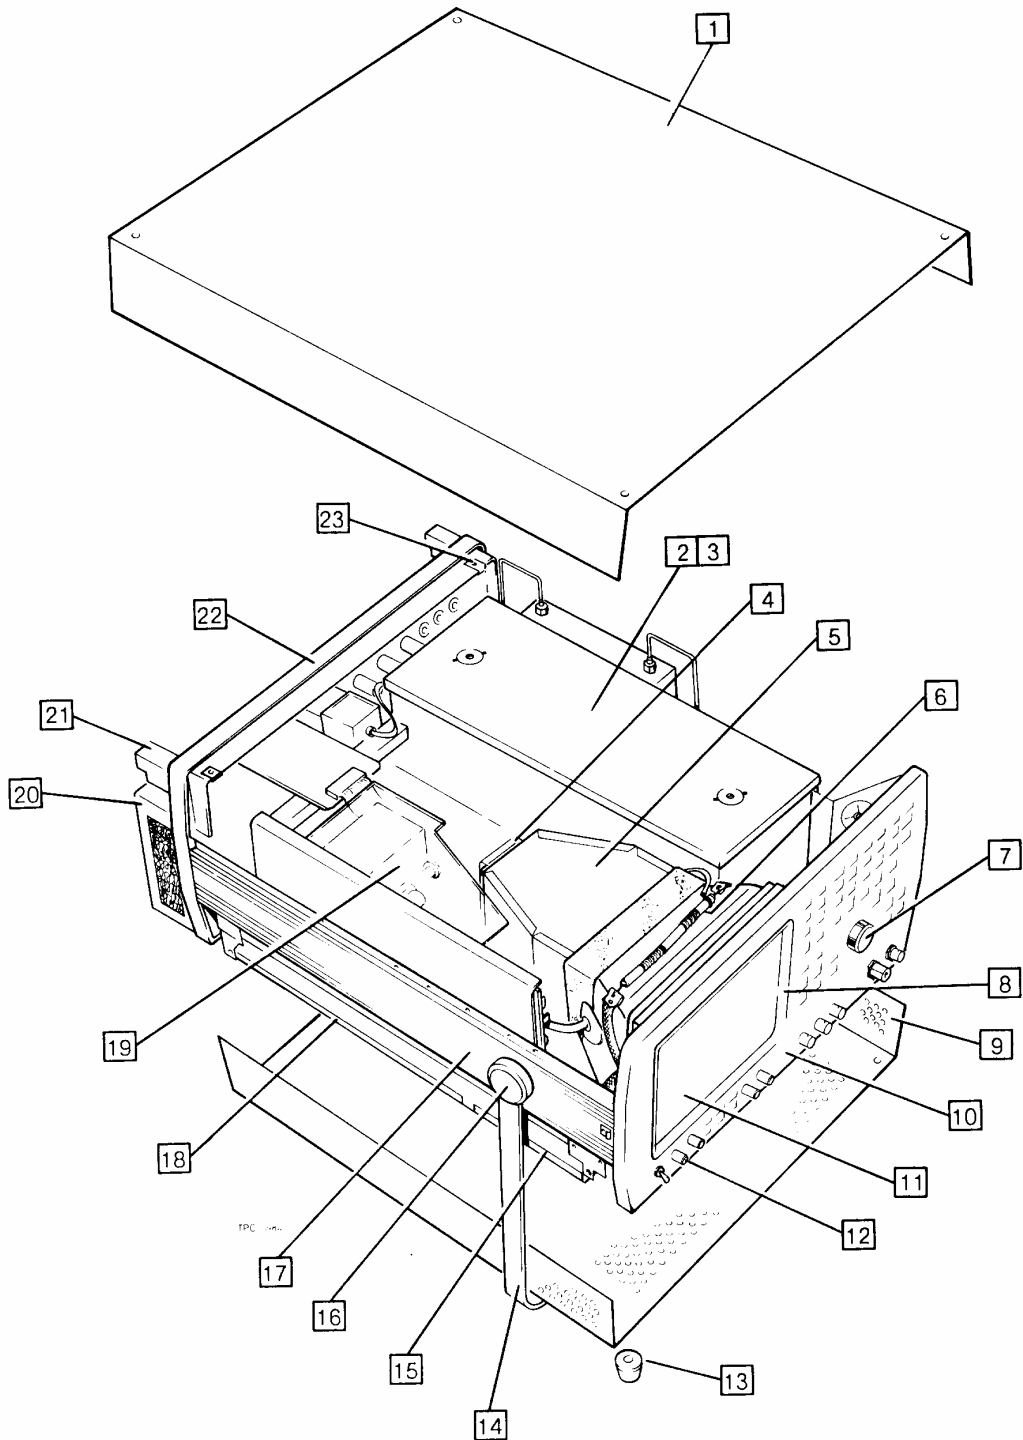

Fig. 6-1 Miscellaneous mechanical parts
36.	Order without prefix. Item numbers as shown in Fig. 6-1.